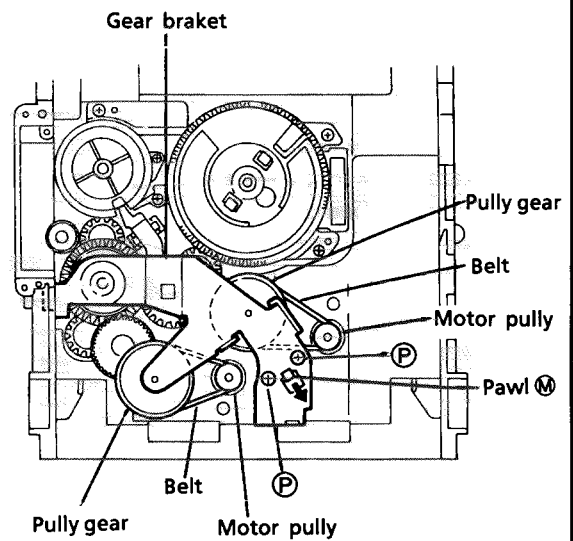

Fig. 37
(See Fig. 37.)
2. Press the pawl ④ securing the gear bracket to the arrow in the figure to remove the gear bracket. (See Fig. 37.)
4. Remove each belts from the both actuator motor pulleys and the pulley gears. (See Fig. 37.)